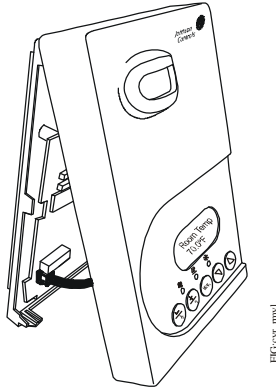

Figure 1: Removing the Thermostat Controller Cover (T600MSx-4+PIR Model Shown)
2. Pull the bottom edge of the thermostat controller cover and open the thermostat controller as illustrated in Figure 1.